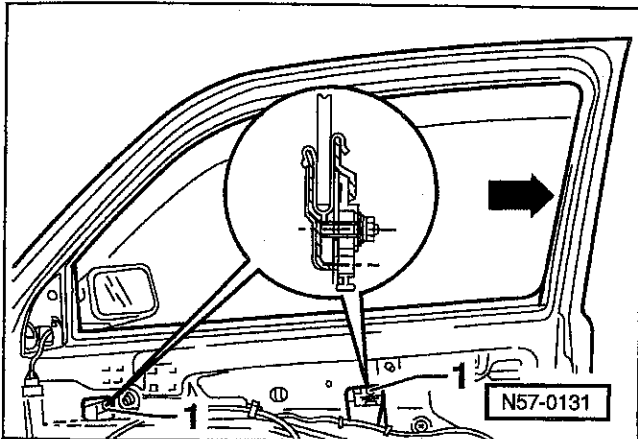

Fig. 4. Clamping jaws positioned in installation openings. Adjust window by pushing into rear window channel (arrow). Inset shows clamping jaws.
2. Crank door window up or down until clamping jaws are located in the installation openings. See Fig. 4.